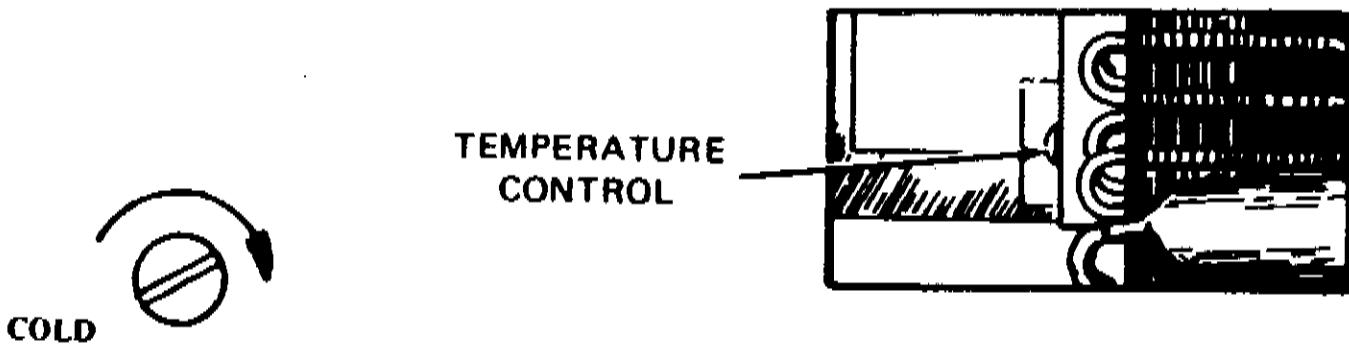

FIG. 24
- c) TEMPERATURE CONTROL SETTING: SEE FIGURE 24. The temperature inside the cabinet is regulated by the temperature control located on the left side of the evaporator. Before adjusting the control, make sure that all components of the refrigeration system are working properly and that the inner door seal is tight. The factory setting will normally be with the "knob" at the center range. The Air Temperature at the feeler bulb should cut system in at 39 degrees fahrenheit. To increase the temperature turn the control counter clockwise. To decrease the temperature turn the control clockwise.